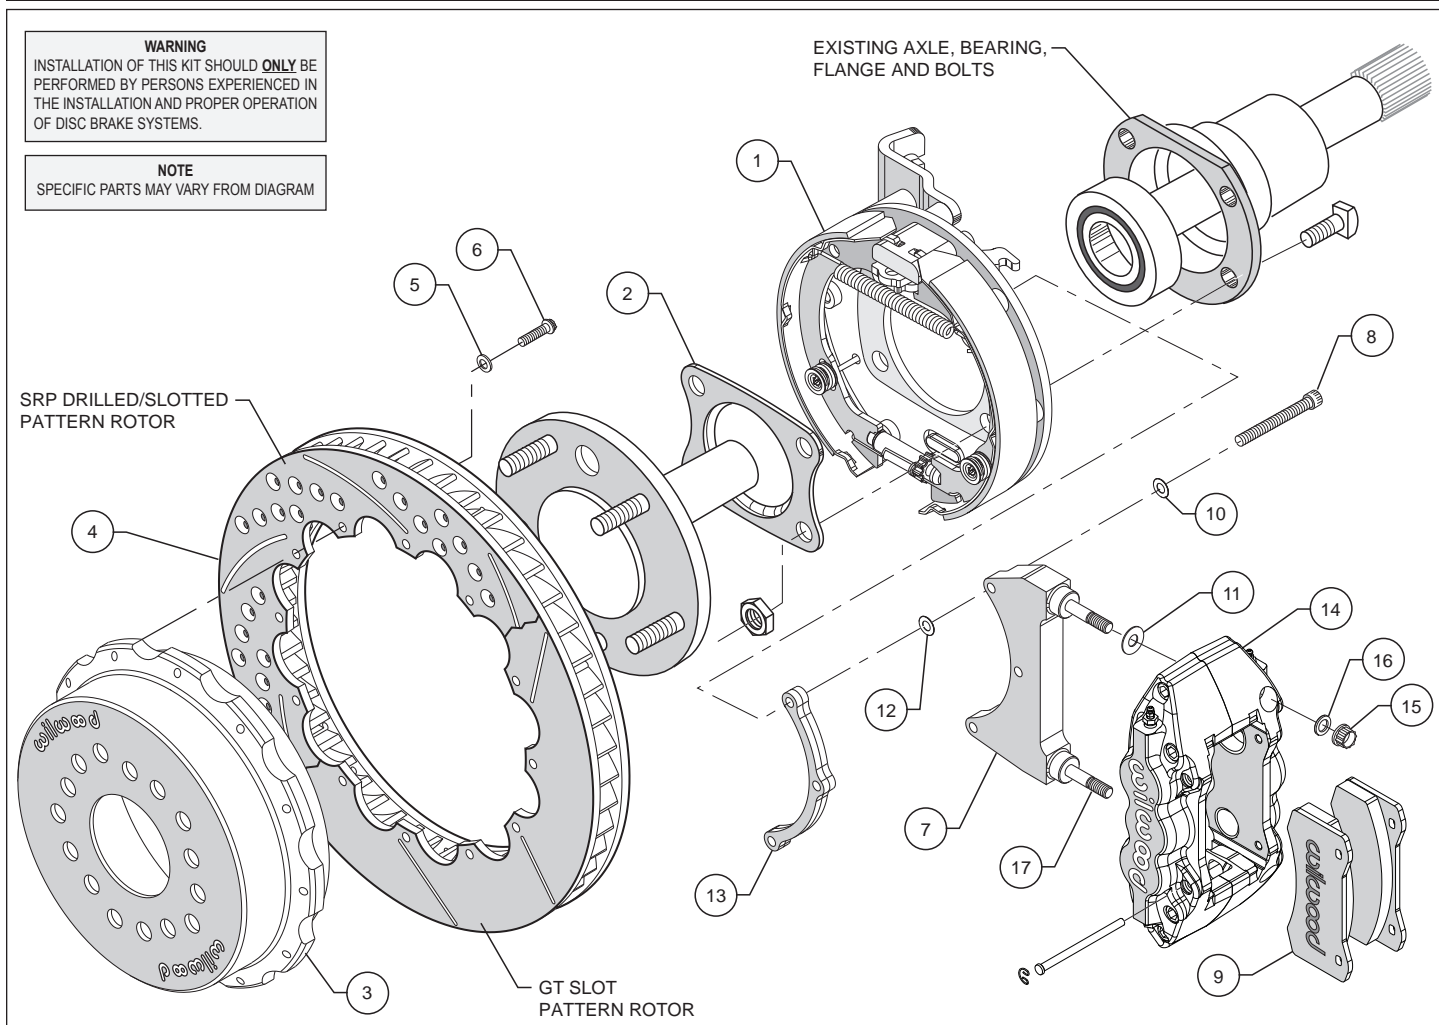

Figure 1. Typical Installation Configuration
- Full Circle Retainers** require the utilization of a qualified machine shop to press off the axle bearing and OEM retainer. Then have machine shop install new retainer (2), supplied with bracket kit with lip facing toward bearing, reference Figures 1, 4 and 5 (we suggest that you install a new bearing at this time, not supplied with kit).
- "U" Retainers** require the removal of the OEM retainer by cutting or grinding a notch in the retainer to facilitate removal. Once OEM retainer is removed, install new retainer (2) supplied with bracket kit with the "U" opening facing up and the lip facing toward bearing, reference Figures 1, 4 and 5.
- Align the correct hole pattern in the hat (3) with the stud pattern on the axle flange. **NOTE:** Some OEM and aftermarket axles come with stud sizes larger than 0.50" diameter. Verify stud size and have a qualified machine shop drill the hats to the correct size, if necessary. Slide the hat/rotor assembly (3 and 4) over the wheel studs covering the bracket kit assembly (1) and against the axle flange face. Check to be sure the hat seats squarely against the hub. Install three lug nuts (finger tighten) to keep the rotor/hat assembly in place while continuing with the installation.
- NOTE:** Please reference the caution statement at the beginning of the assembly instructions. The caliper mounting bracket assembly (7) should be installed first with clean, dry threads on the mounting bolts (8). Install the bracket from the rear side of the bracket kit assembly (1) by sliding bolt (8) through flat washer (10), bracket (7), shim washer (12) and finally through the spacer (13), see Figure 1. **NOTE:** End of bolt should not exceed inside face of insert. The bracket must tighten squarely against the back side of the bracket kit assembly (1). Inspect for interference from casting irregularities, machining ridges, burrs, etc. Use one thin shim (12) between the bracket (7) and spacer (13) during initial trial fitting.
- Lubricate caliper mounting studs and nuts with lightweight oil. Install one shim (11) over each pre-installed stud (17) on the radial mount bracket (7). Slide the caliper (14) in place over the studs and rotor, then install the washer (16) and lock nut (15) to hold the caliper in place. The caliper bleed screws should be pointing up. Snug the lock nuts (15) and check that the rotor (4) is centered in the caliper (14). Add or subtract .015" shims (12) as necessary between the caliper mounting bracket (7) and the spacer (13) to center the caliper (14).
- Remove the two caliper pad retaining pins from the caliper (14) by popping out the pin retaining clips and sliding out the pins. Slide the brake pads (9) into place. They should install easily without interference. Check that the outside radius of the brake pad is flush with the outside diameter of the rotor face. Add or subtract shims (11) between the caliper (14) and mount bracket (7) to gain the proper alignment. Reinstall the pad retainer pins and secure using the pin retaining clips.
- Adjust the parking brake shoes outward (using a drum shoe adjustment tool available at your local auto parts store) while spinning the hat (3) until a slight drag is felt against the hat/drum. Remove the lug nuts that were holding the hat/rotor in place. Install the wheel and lug nuts. Check to see that the wheel rotates freely without interference.
- Once all clearances have been checked, remove the wheel, caliper, hat/rotor from the bracket kit assembly (1). Secure the caliper mounting bracket (7) to the bracket kit assembly (1) using red *Loctite*[®] 271. Torque bolts (8) to 180 in-lb. Reinstall the hat/rotor assembly and again use lug nuts to hold it in place. Reinstall the caliper, torque the caliper nuts (15) to 30-35 ft-lb.
- NOTE:** Clevis and cable kits which attach to the parking brake assembly are not included in the Wilwood parking brake kit. Wilwood offers a generic style parking brake cable kit, P/N 330-9371 for this application which can be ordered separately from your local Wilwood dealer or by calling Wilwood customer service at (805) 388-1188.